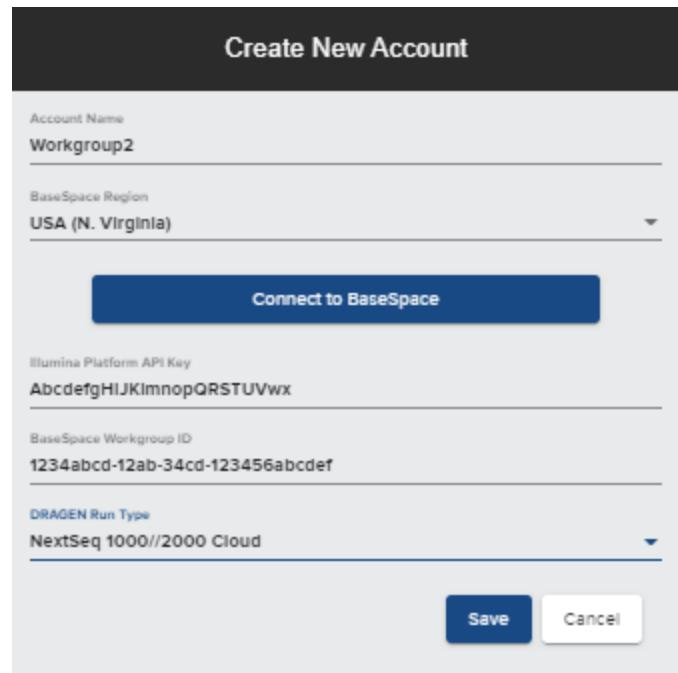

Figure 34: Illumina BaseSpace Admin pop-up
4. In the pop-up window (see Figure 34), create an Account Name for this workgroup connection.